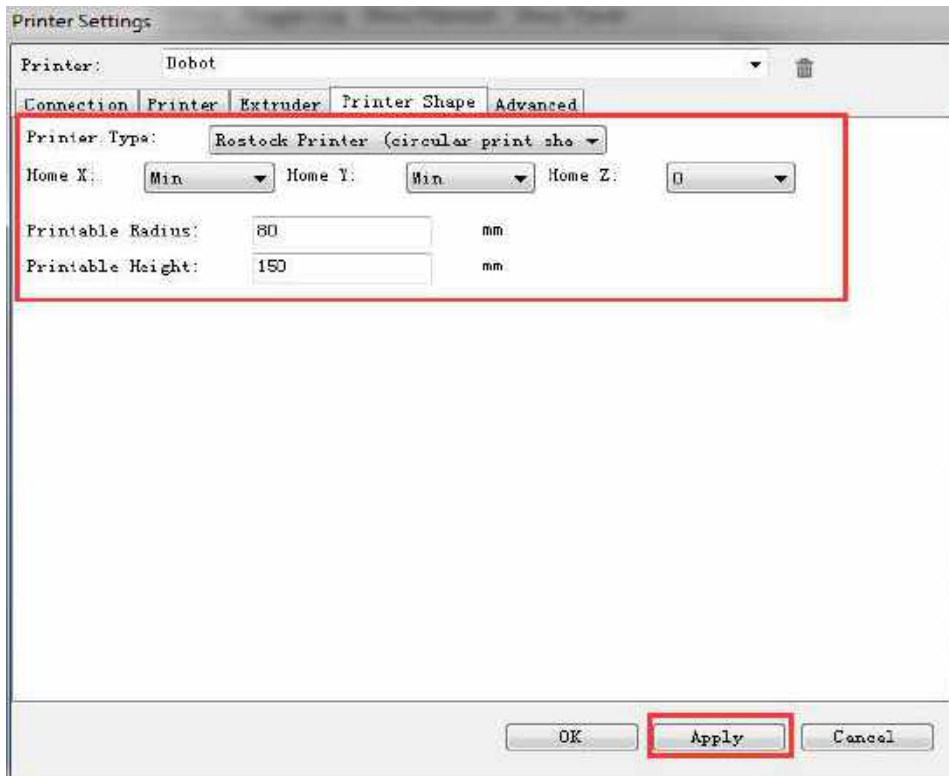

Figure 5.117 Printer shape settings
6. Set the corresponding parameters on the **Printer Shape** tab as shown in the red box of Figure 5.117, the other parameters are set by default. Then, Click **Apply**.